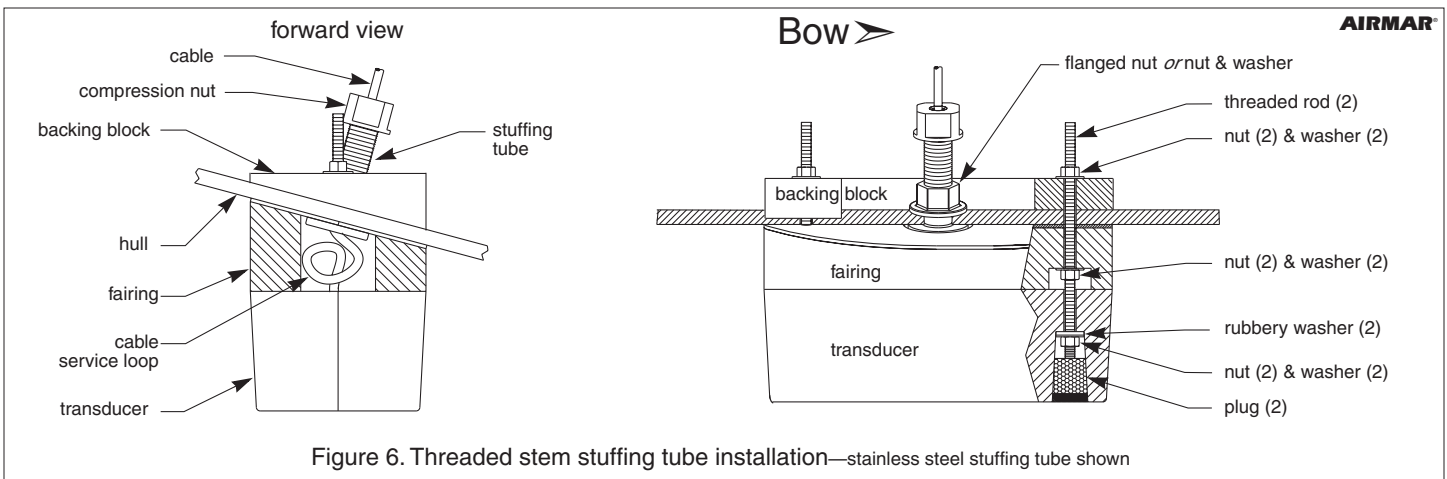

Figure 6. Threaded stem stuffing tube installation—stainless steel stuffing tube shown
4. Apply a 2mm (1/16") thick layer of marine sealant to the surface of the fairing that will contact the hull (see Figures 6 & 7).
7. Thread the transducer cable through the cavity in the fairing and the stuffing tube to the inside of the hull. Apply a 2mm (1/16") thick layer of marine sealant to the surface of the transducer that will contact the fairing. Push the transducer onto the threaded rods (see Figures 6 & 7).